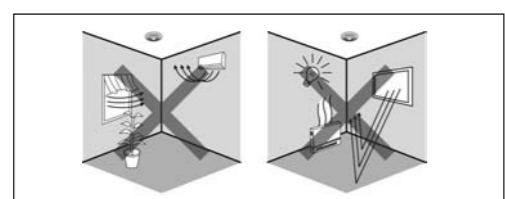

Fig. 3
• No direct heat source in detection area (Fig.3)